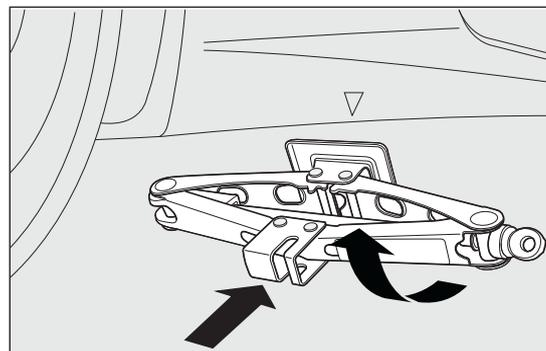

fig. 99
- if the vehicle is equipped with side skirts, to let the jack pass under the vehicle, the latter must be tilted (as shown in fig. 99);